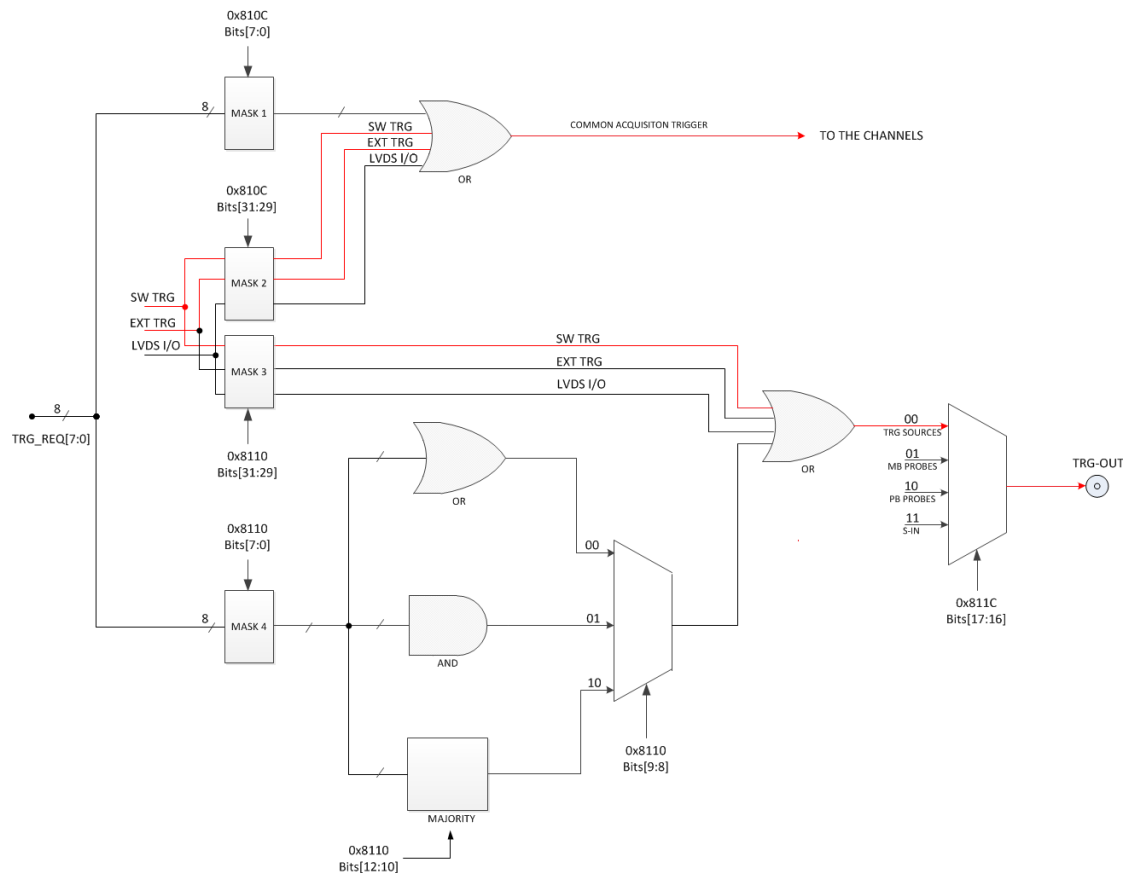

Fig. 3.10: Trigger configuration of TRG-OUT front panel connector
As described in § 3.4, the OR of all the enabled trigger sources, synchronized with the internal clock, becomes the common trigger of the board that is fed in parallel to all channels, consequently provoking the capture of an event. By default, only the Software Trigger and the External Trigger participate in the common acquisition trigger (refer to the red path on top of **Fig. 3.10**).
- the OR of all the enabled trigger sources (only the Software Trigger is provided by default, as in the red path of **Fig. 3.10**);